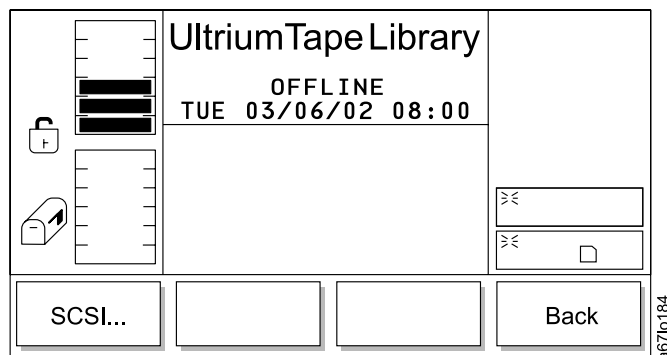

Figure 145. Drives Submenu
- If **Drives** is selected, the Drives Submenu displays (see Figure 145 on page 124).
- If **Cancel** is selected, the Drives Submenu displays (see Figure 145 on page 124).